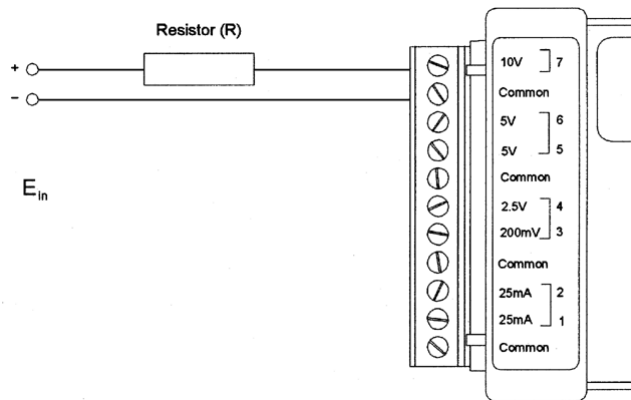

Figure 7-3: Extended Voltage Range on 10V Channel
The 10 volt channel can be modified to span higher ranges (greater than 10 volts DC) by adding a single resistor to the "10V" terminal shown in Figure 7-3. The value of the resistor (R) can be calculated by following the formula below, based on the desired voltage input range (Ein):
The 5 volt and 2.5 volt channels can be modified to span higher ranges (greater than 5 and 2.5 volts DC respectively) by adding a single resistor, in the same way as shown for a 10V channel in Figure 7-3 to the "5V" and "2.5V" terminals. The value of the resistor (R) can be calculated by the following equations, based on the desired voltage input range (Ein). A final Range can be determined to write a custom equation in TrendReader software.